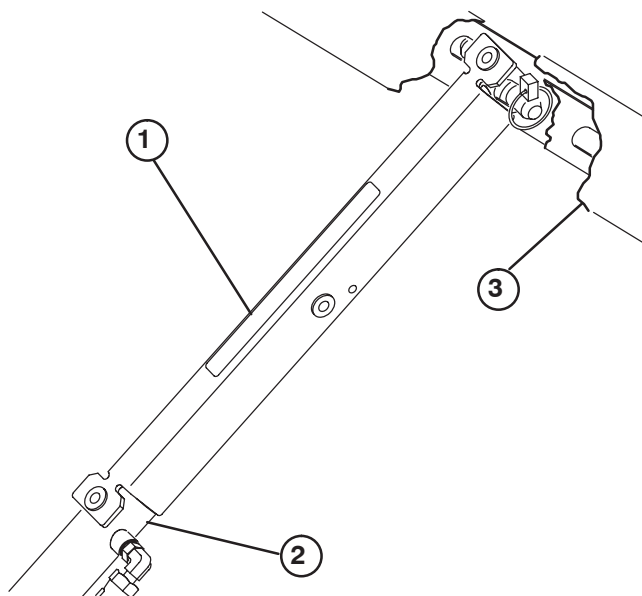

Figure 40
3. Push bed support onto cylinder rod, making sure support end tabs rest on end of cylinder barrel and on cylinder rod end (Fig. 40).